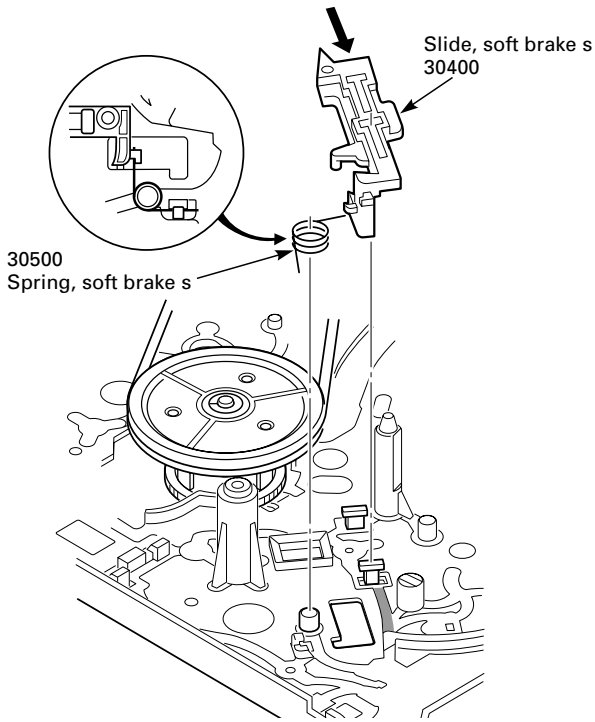

Fig. 8.16
- Unhook the spring (Pos. 30500), move the slide of the soft brake (Pos. 30400) in the direction of the arrow to remove it (Fig. 8.16).